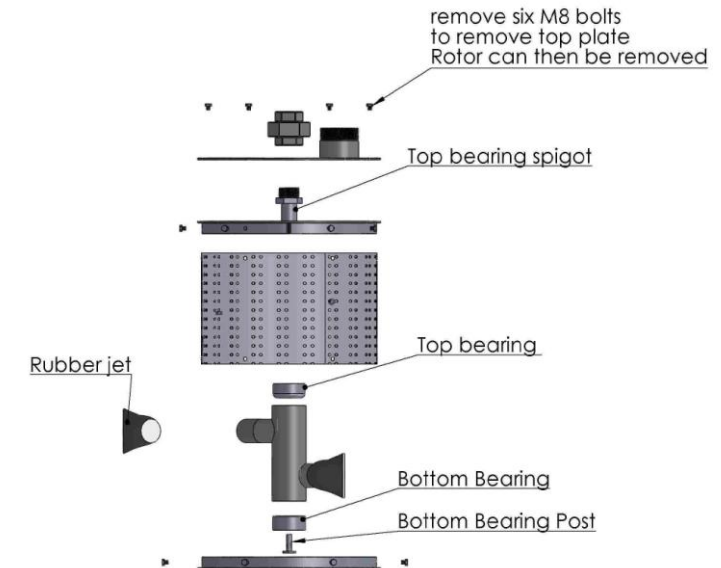

Fig 4
1. Unscrew the bolts securing the top plate (see fig 4)
11.3 Bearing replacement (see fig 4 for parts identification)